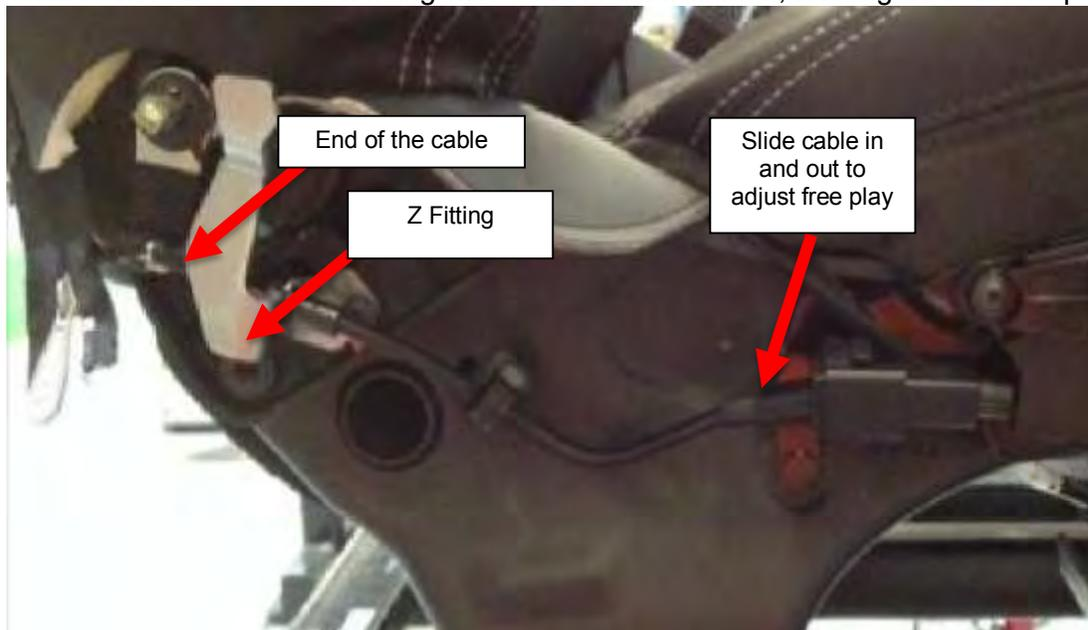

Figure 7
9. Once the adjuster mechanism has been unlocked adjustment of the free play in the cable between the end of the cable and the Z fitting will need to be carried out, refer figure 7 and step 13.